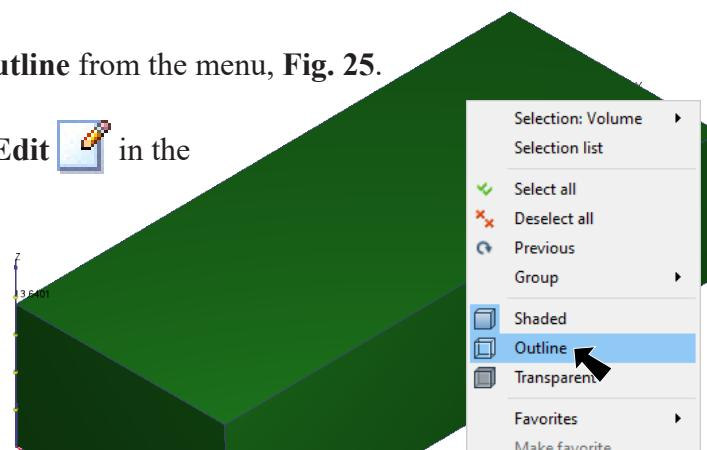

Fig. 25
Step 1. Right click the Tunnel and click **Outline** from the menu, Fig. 25.